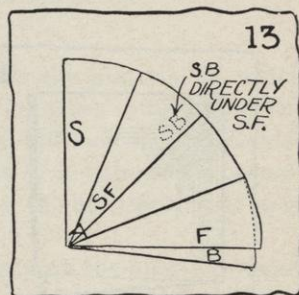

FIG. 13.
- (1) Partly unfold your crinoline so that it is folded in four parts only. It will be the shape of a quarter of a circle.
- (2) Mark one single fold of paper *F* (front) and the other single fold *B* (back) and the double fold *S* (side). Mark center crease *S.F.* (side front). The crease directly below this would be called *S.B.* (side back) (see dotted letters in Figure 13).